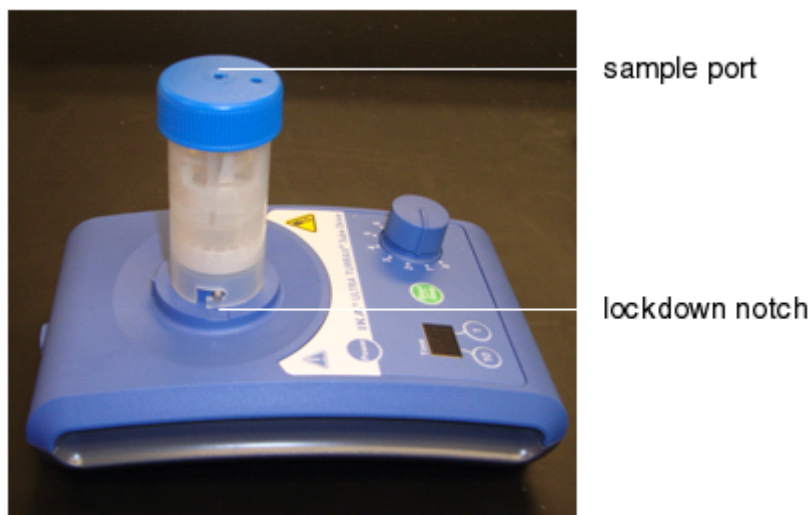

Figure 21 SOLiD™ ePCR Tube on the ULTRA-TURRAX® Tube Drive from IKA®.
1. Place the SOLiD™ ePCR Tube containing 9 mL of oil phase onto the ULTRA-TURRAX® device, then twist the tube to lock it into position (see Figure 21).